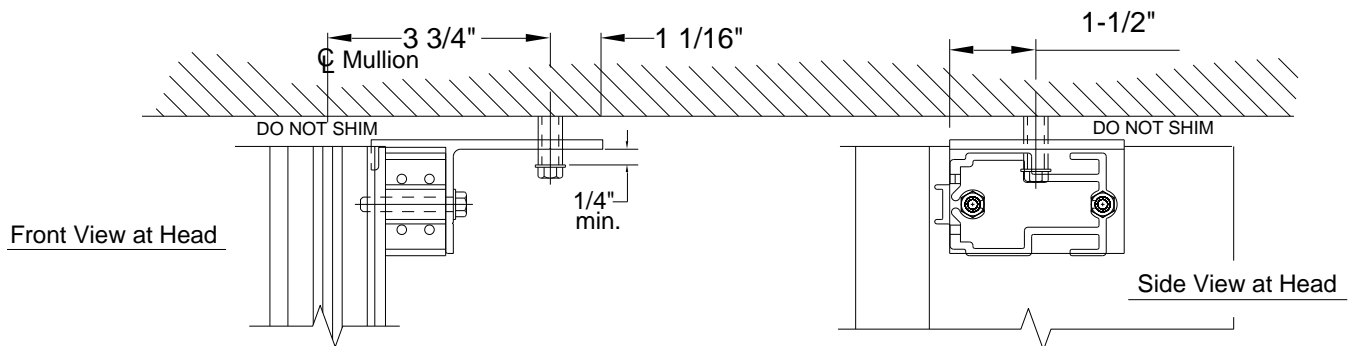
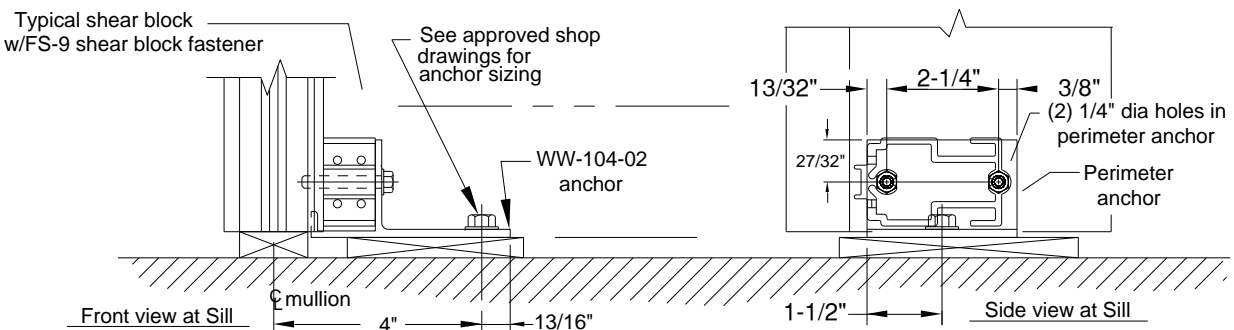

Figure 9: Single Span Head Anchorage
Figure 10: Single Span Sill Anchorage & Shear Block Orientation
- 7.1 Attach shear blocks to all vertical members using FS-9 fasteners. The shear block anchors are designed for use with standard shear blocks. See Figure 9 and Figure 10. For proper orientation and installation onto mullion.
- 7.3 Install verticals plumb and level. Place shims under vertical mullion at sill to evenly distribute dead load from wall. Install pipe sleeve anchor at head to allow for thermal movement of the vertical mullions. See Figure 9 and Figure 10.
8.1 Attach shear blocks to all vertical members using FS-9 fasteners. See *Figure 10* for proper orientation on mullion. For installations using the shear block anchors, attach to head and sill shear block.
NOTE: Depending on the end reactions, either the shear block anchor or "F" or "T" anchors can be used to anchor the wall. See Figure 10 for shear block anchor load capacity.
- 9.2 Attach shear blocks to all vertical members. See *Figure 10* for proper orientation on mullion.